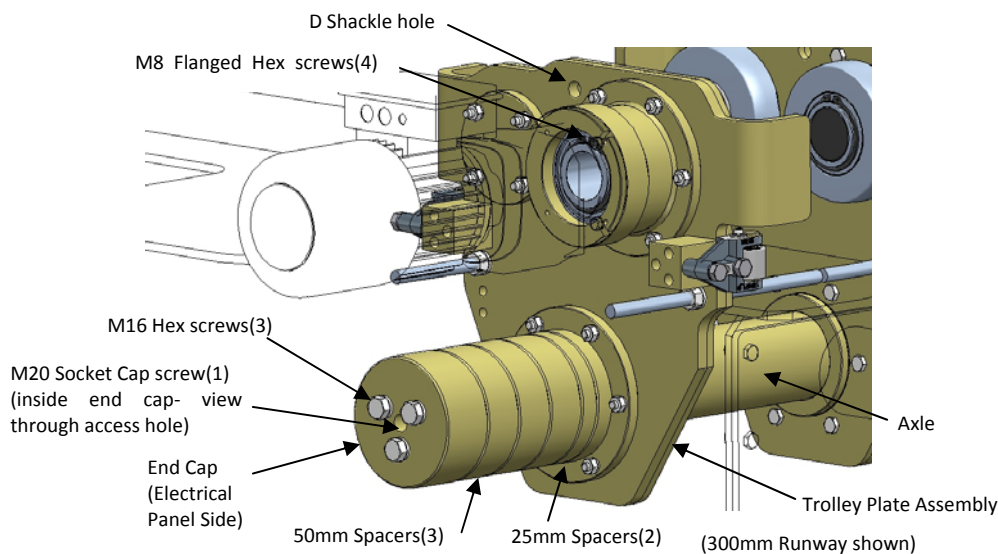

Figure 21 – CT Trolley Plate Assembly 'Electrical Panel side'
- Whilst the hoist is on the floor and stood on its delivery feet, identify M16 Hex screws (3) and M20 Socket Cap screw (1) (view through access hole), on CT trolley and non CT trolleys on Electrical Panel Side only (see Figure 21).
- Using a 17mm AF Allen key ensure M20 Socket Cap screw (1) is fully screwed in, turning the screw clockwise.
- Remove the Endcap 'Electrical Panel Side', loosen and remove M16 Hex screws(3), see Figure 21.
- Remove the 50mm spacers(3) and 25mm spacers(2) from the axle and place aside.
- Remove/slide the Trolley Plate Assembly off from the axle, see Figure 21. Use the D shackle holes to attach suitable lifting equipment (70 kg), place aside.